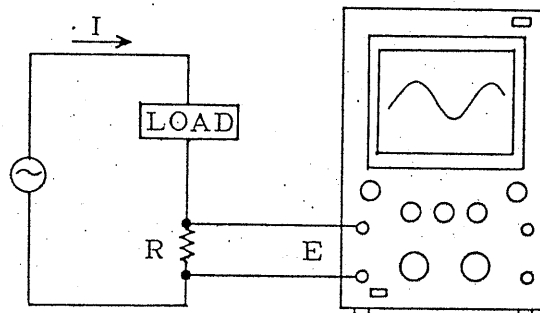

Fig. 5
(2) Measurement of current by voltage drop (Refer to Fig. 5)
(Refer to Fig. 5)